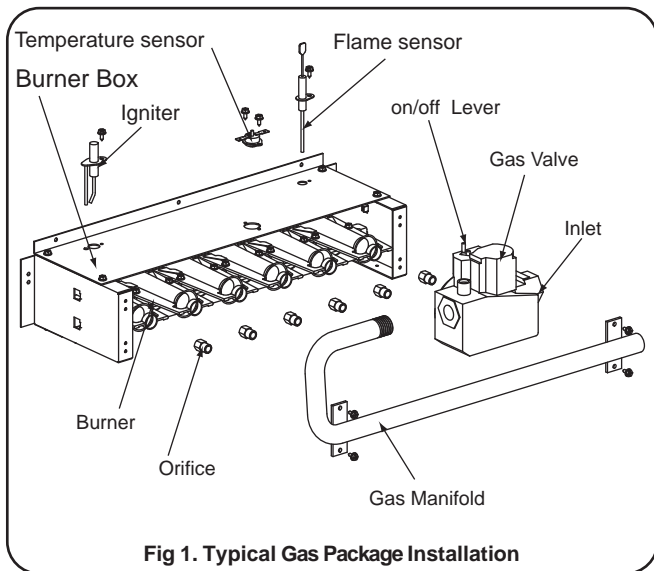

Fig 1. Typical Gas Package Installation
1. Remove the four (4) fasteners that secure the gas manifold to the burner box, as shown in Figures 1. Carefully remove the gas manifold assembly from the burner box. Note that the gas manifold assembly consists of the gas valve, the gas manifold, and the orifices.
2. Carefully remove the burner orifices from the gas manifold, as shown in Figures 1.